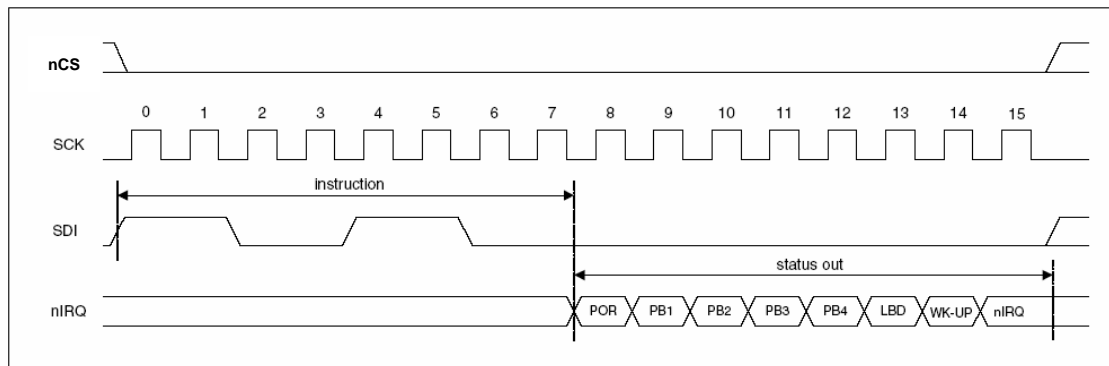

Figure 5. Status Register Read Through nIRQ (pin 14 Processor Mode)
The Status Register requires only the Command Code to be sent. Status bits can be read through the nIRQ pin (14). Clock pulses are continually sent and data is read out. When this command is issued it clears the last interrupt and starts processing the next pending interrupt. See Figure 5 for read sequence.